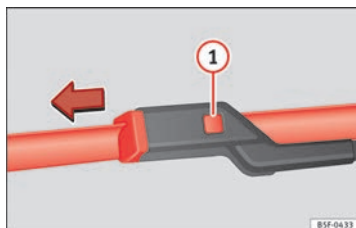

Fig. 73 Changing the windscreen wiper blades
- Hold down the release button ⇒ Fig. 73 ① while gently pulling the blade in the direction of the arrow.